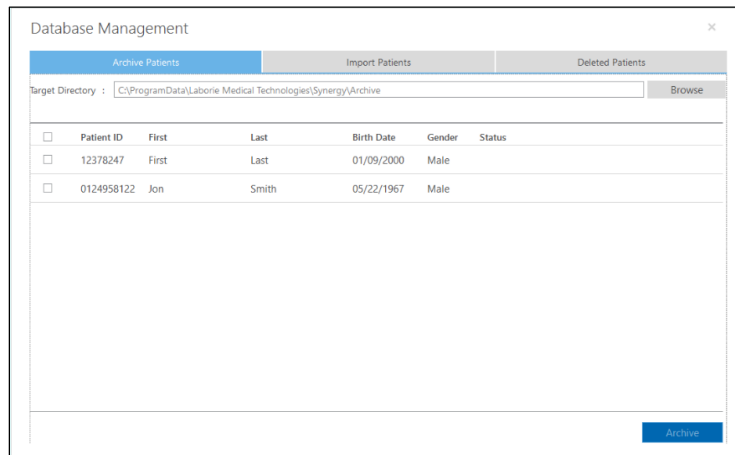

Figure 40: Database Management – Archive Patients
1. Select the patients for archiving. All patients available in the database will appear in this window. To select patients individually, select individual check boxes. To select all patients select the checkbox located on the header (Figure 40).